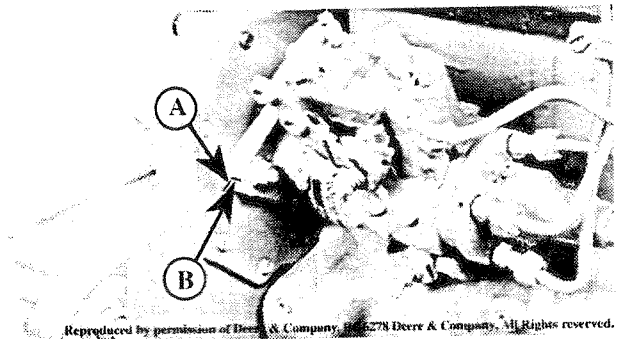

Figure 19.
9. Align timing mark on the pump flange (Fig. 19,B) with timing mark on the cylinder block front plate (A).